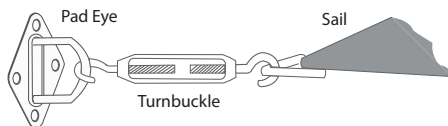

Fig. 9
- A.** Your Coolhaven Shade Sail Kit includes the fixing accessories needed for installation (Fig. 9).